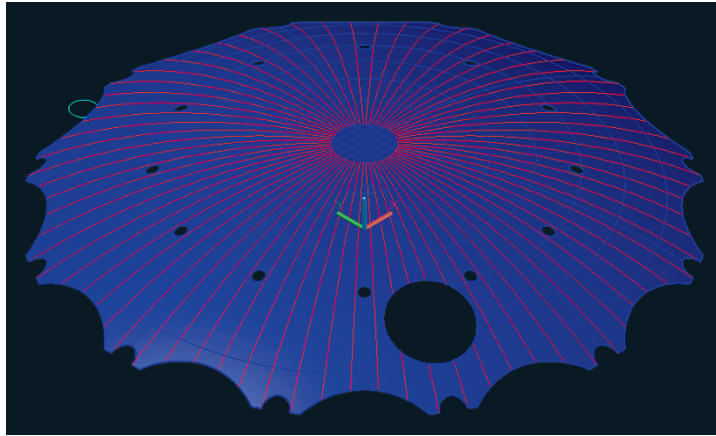

FIGURE 17.15 Trimming holes in the dome to accommodate the masts
7. Hover the cursor over the Layer Properties Manager's title bar to reveal the palette. Click the Cylindrical Towers layer's darkened light-bulb icon to toggle this layer on, then double-click the layer's icon to set it as current. Toggle off the Dome Voids layer. Figure 17.15 shows the result.